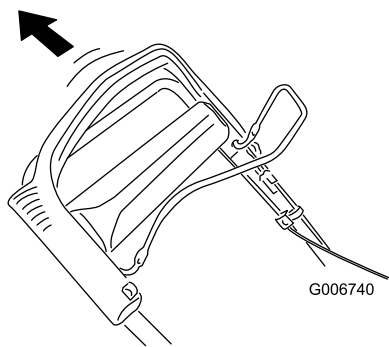

Figure 27
2. Pull the upper handle back as far as possible (Figure 27).